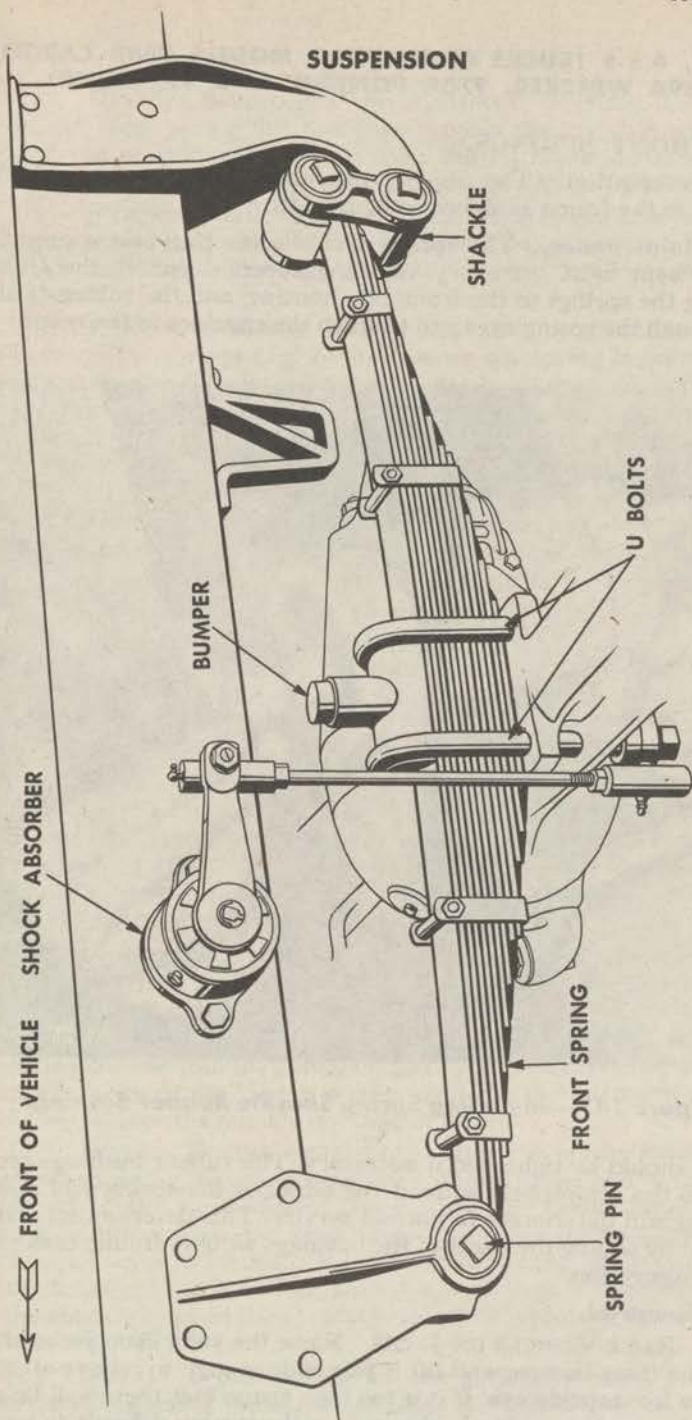

Figure 146—Front Spring Suspension
a. **Description.** The front springs are mounted on the axle and attached to the frame as shown in figure 146.